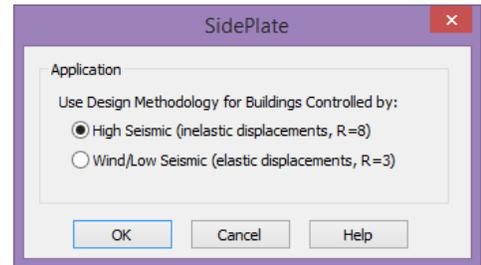

Figure 1 - RAM SidePlate connection type
STEP 1: SELECT THE SIDEPLATE CONNECTION TYPE (SEE FIG. 1)